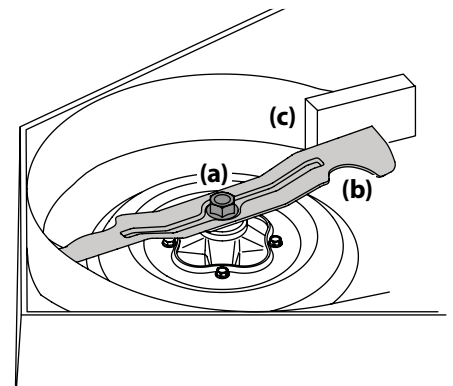

Figure 4-18
2. Use a  $1\frac{5}{16}$ " wrench to hold the hex nut on top of the spindle assembly when loosening the hex nut (a) securing the blade (b). A block of wood (c) may be placed between the deck housing and the cutting edge of the blade (b) to help in breaking loose the hex nut (a) securing the blade. See Figure 4-18.